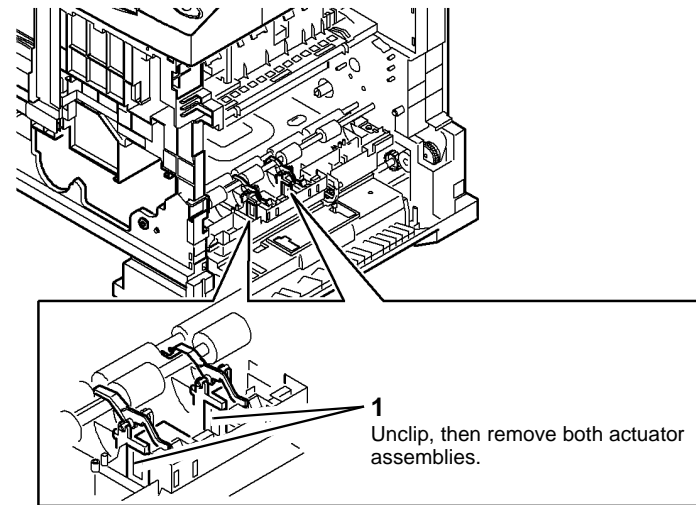

Figure 5 Actuator Assembly Removal
13. Remove the actuator assemblies, Figure 5.